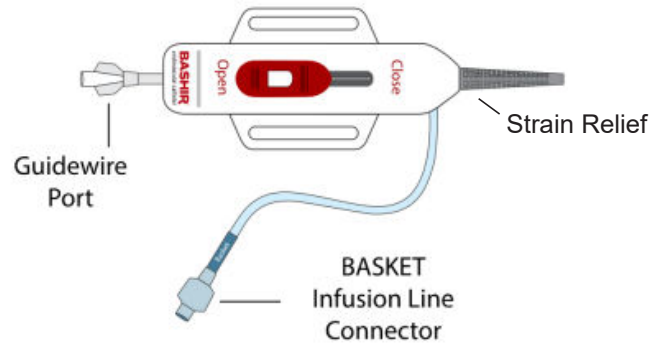

Figure 8. Basket infusion line connector and guidewire port.
6. Attach one 3-way stopcock to the basket infusion line connector (Figure 8, Page 7).
- Remove the 0.035" guidewire. Attach a second three-way stopcock to the guidewire port and flush the guidewire lumen with heparinized saline (Figure 8).